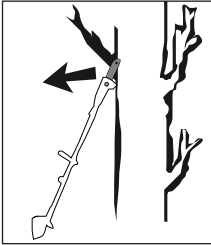

Fig. 2
- Kickbacks can occur if the tip of the blade 16 touches an object or if the wood bends and the saw chain 17 gets caught in the cut (see Fig. 2).